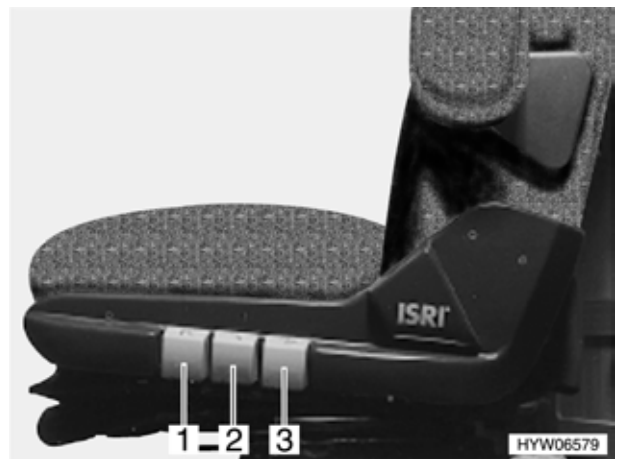

Fig. 59 Bar seat
- Pull the handle (Fig. 59,1). The seat height can be adjusted.
- Pull the handle (Fig. 59,2). The seat can be rotated.
- Pull the handle (Fig. 59,3). The angle of the backrest can be adjusted.